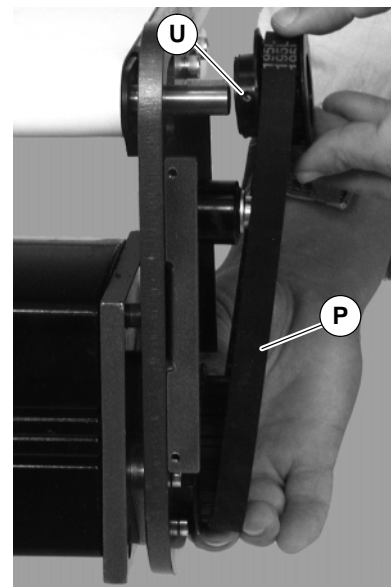

Figure 11
3. Remove timing belt (P of Figure 11).
**NOTE:** If timing belt does not slide over pulley flange, loosen driven pulley set screws (U of Figure 11) and remove pulley with belt (P). For re-installation, see steps 5 and 6 on page 6.